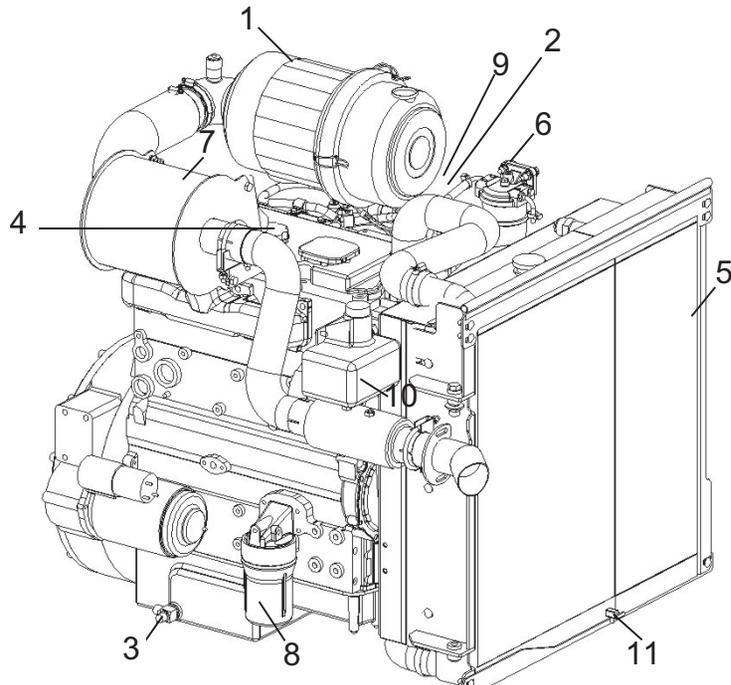

Fig. 45: Engine Service Components
2. Place a pan under the hose behind the left rear tire and then open the valve (#3, Fig. 45) on the oil pan to drain the oil.
3. Remove the oil filter (#8, Fig. 45). Clean the filter sealing surface.
6. Remove the oil fill cap (#4, Fig. 45) and add the recommended oil. Refer to the “*Lubrication*” topic (page 46) for oil recommendations and capacities.
1. Remove the filter element (#2, Fig. 45) by unscrewing filter assembly.
1. Loosen drain plug on bottom of water separator (#6, Fig. 45) to drain water.
1. Open rear door. Check that the coolant recovery tank (#10, Fig. 45) is 1/3 to 1/2 full with a cold engine and 2/3 to 3/4 full with a hot engine.
2. **Radiator** – Open the drain valve located on the radiator (#11, Fig. 45) and drain the coolant into a suitable container.